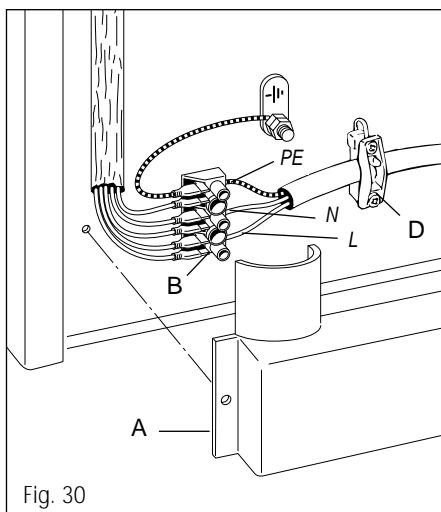

Fig. 30
The electrical connection must be connected to the terminal block "B" (fig. 30) and must only be carried out by a qualified electrician. A cable of the correct rating of this appliance must be use type **H05RR-F** section 3x1,5 mm².
- Remove the screws securing the cover "A" (fig. 30) on the rear of the cooker.
- Remove the screws from the cable clamp "D" (fig. 30) and feed the cable through the clamp.